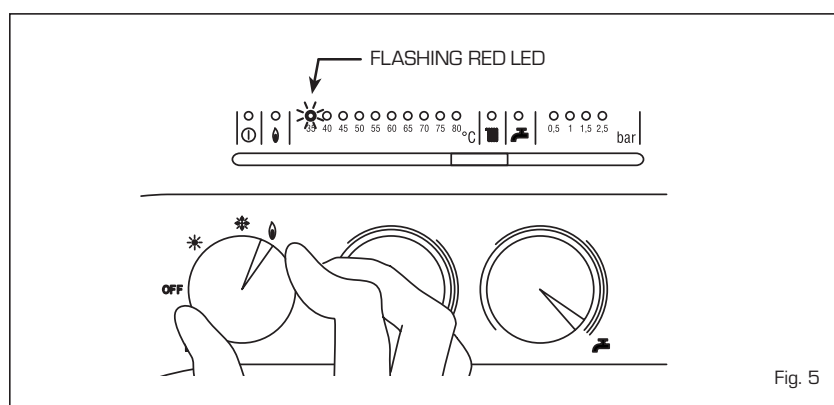

Fig. 5
– Safety/exhaust thermostat triggered (fig. 5)